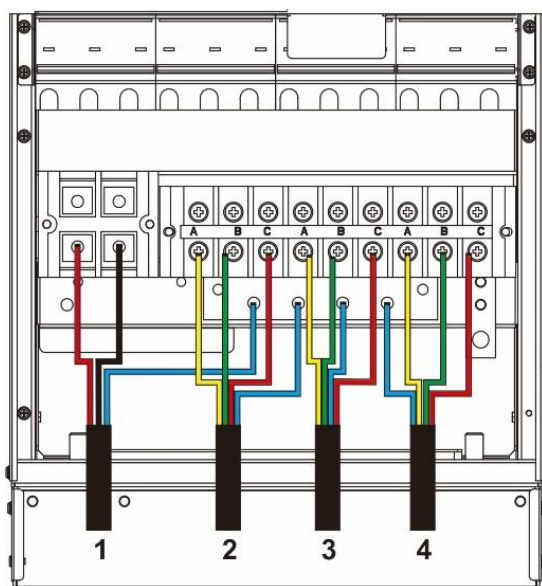
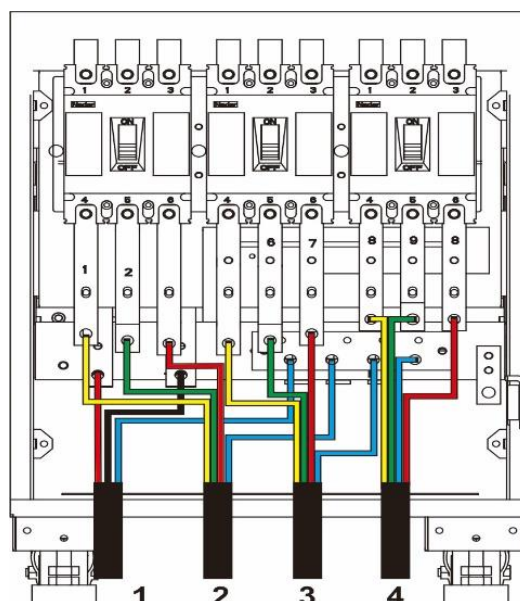

Fig. 3-9 Wiring of power cable (30/40/60 kVA)
Fig. 3-10. Wiring of power cable (80/90/120 kVA)
- The wiring position and path of the power cable at the bottom of the cabinet are shown in Fig. 3-9 and Fig. 3-10.